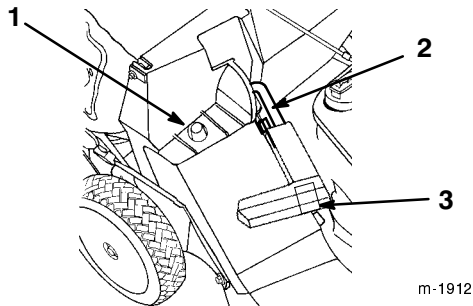

Figure 14
2. Ensure that the discharge door handle is fully forward and that the pin is engaged in the catch (Fig. 14).
3. Slide the hole in the bag frame onto the retaining post on the discharge tunnel (Fig. 14).
2. Raise the discharge door handle and move it forward to engage the pin with the catch (Fig. 14).